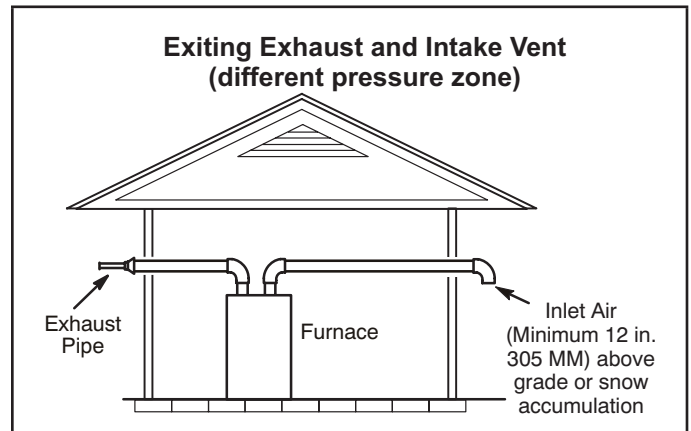
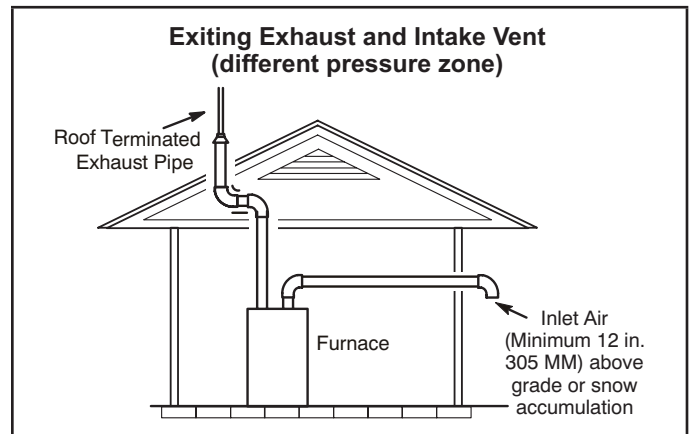

Figure 36
Figure 37
- 1 - Intake and exhaust terminations are not required to be in the same pressure zone. You may exit the intake on one side of the structure and the exhaust on another side (figure 36). You may exit the exhaust out the roof and the intake out the side of the structure (figure 37).